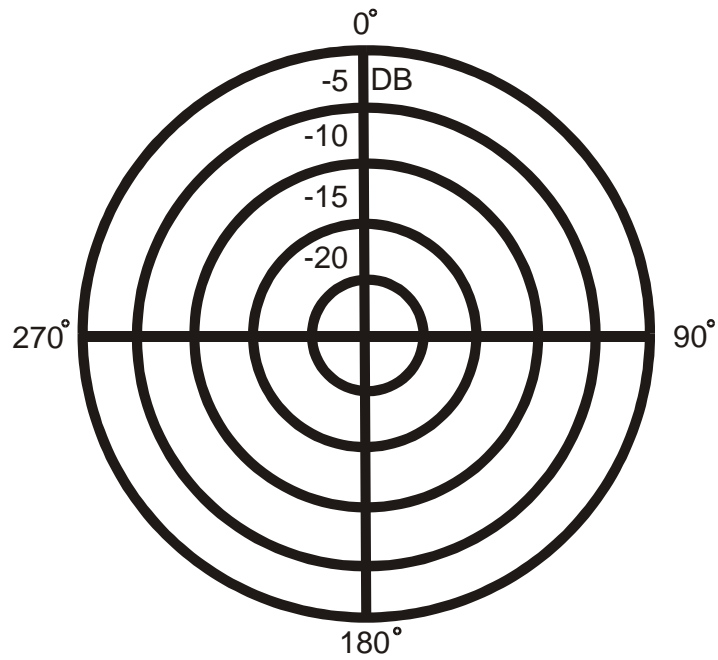

Figure K-1. Omnidirectional
(1) Omnidirectional. A pickup pattern with 360-degree radius (Figure K-1).